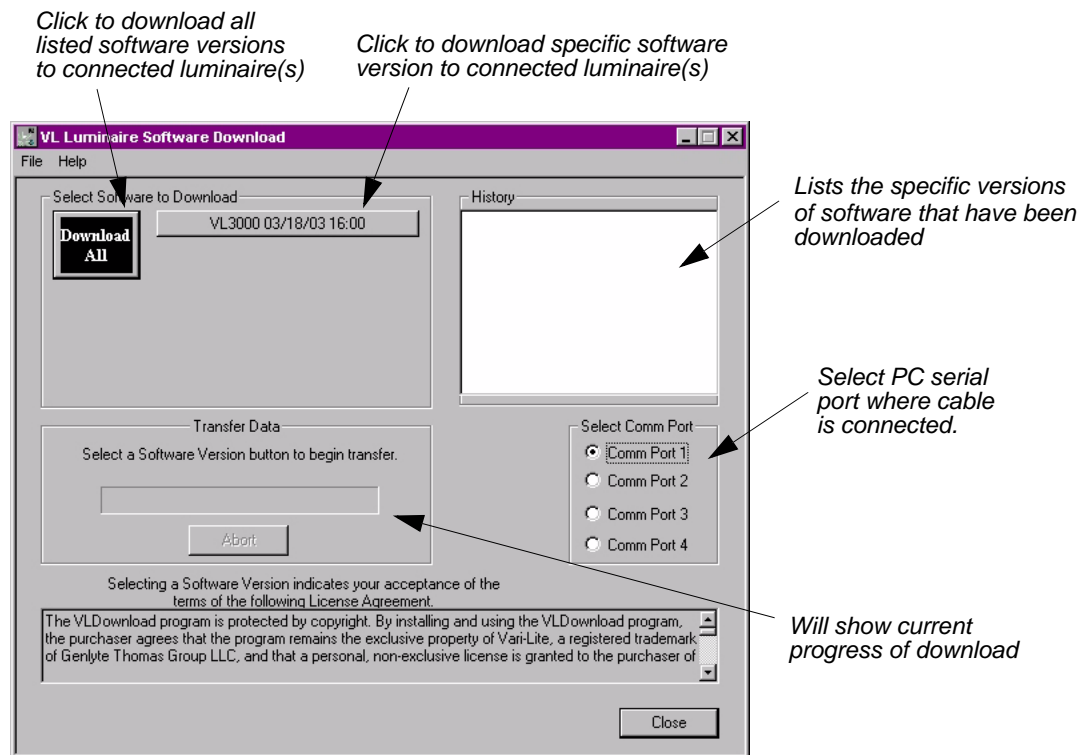

Figure 3-2: VL Download Program Window
- Step 6. At Select Comm Port section of window (refer to Figure 3-2 on next page), select serial Comm Port (Comm Port 1, Comm Port 2, Comm Port 3, or Comm Port 4) where *Serial Straight Thru Cable* is connected.